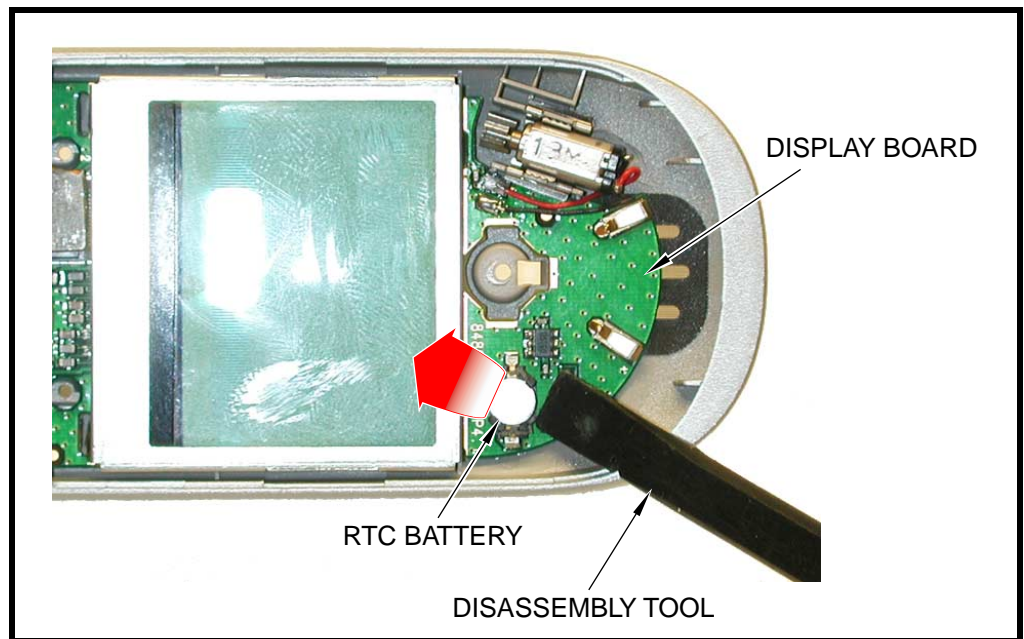

Figure 19. Removing the RTC battery
- Using the flat end of the disassembly tool, gently pry the RTC battery from its socket on the display board. See Figure 19.